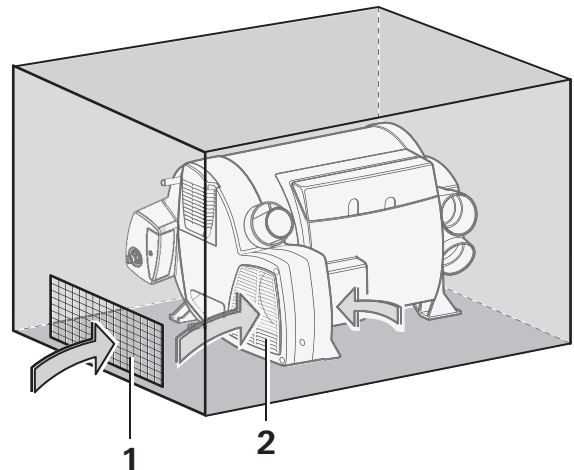

Fig. 16
- If a grid is installed (Fig. 16 – 1), the same size requirement regarding cross-sectional area (23.25 in.² (150 cm²)) for drawing in air must be observed.